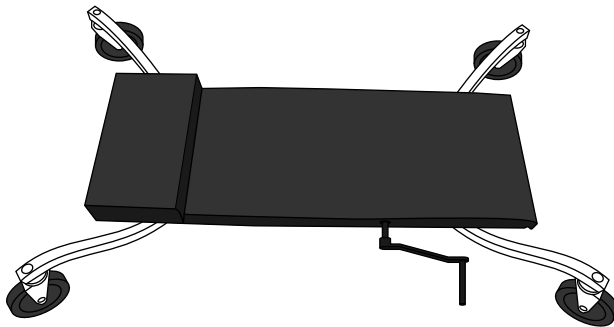

Figure 4-7:
- ✔ **Creeper:** A *creeper* (shown in Figure 4-7) is a small platform with wheels that you can lie down on and use to roll around. Creepers are helpful when you need to get up under something. Cost: \$30.